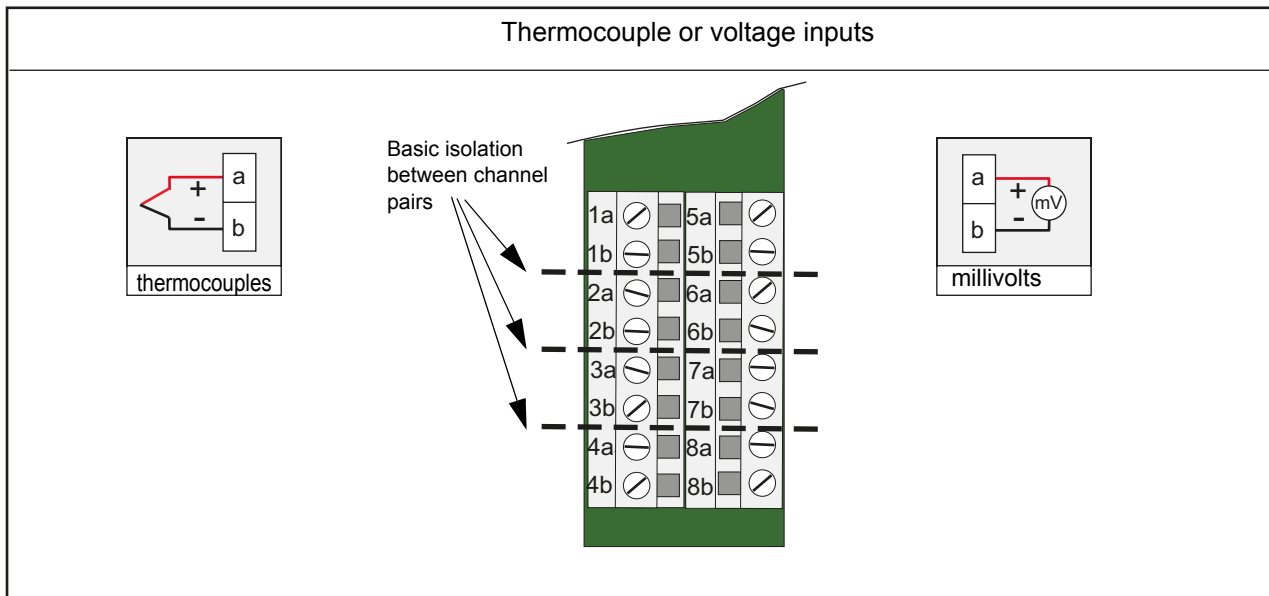

Figure 21: AI8-TC terminal units
- **AI8-TC**—eight channels of thermocouple inputs (with cold junction compensation) or voltage (mV) inputs, standard polling rate. See Figure 21 for terminal pin-out details.